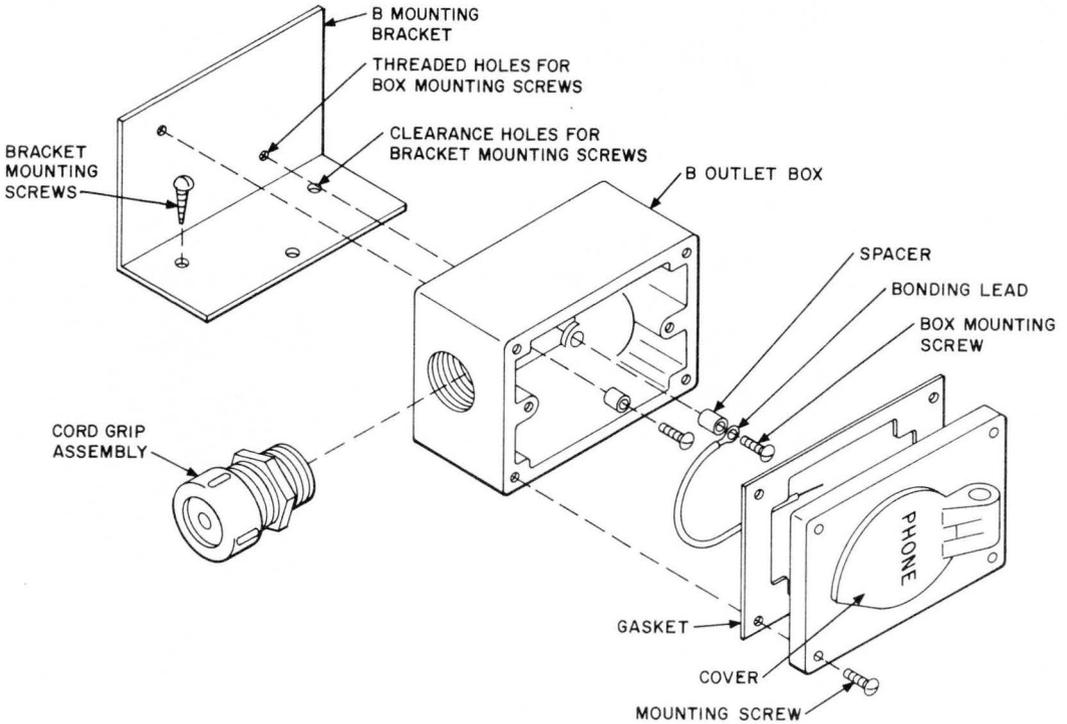

Fig. 9—Assembly of B Weatherproof Male Jack to B Outlet Box and B Mounting Bracket
- One B mounting bracket used to mount outlet box on vehicle (Fig. 9)
connected as shown in Fig. 9 to provide a ground bond to the vehicle chassis.